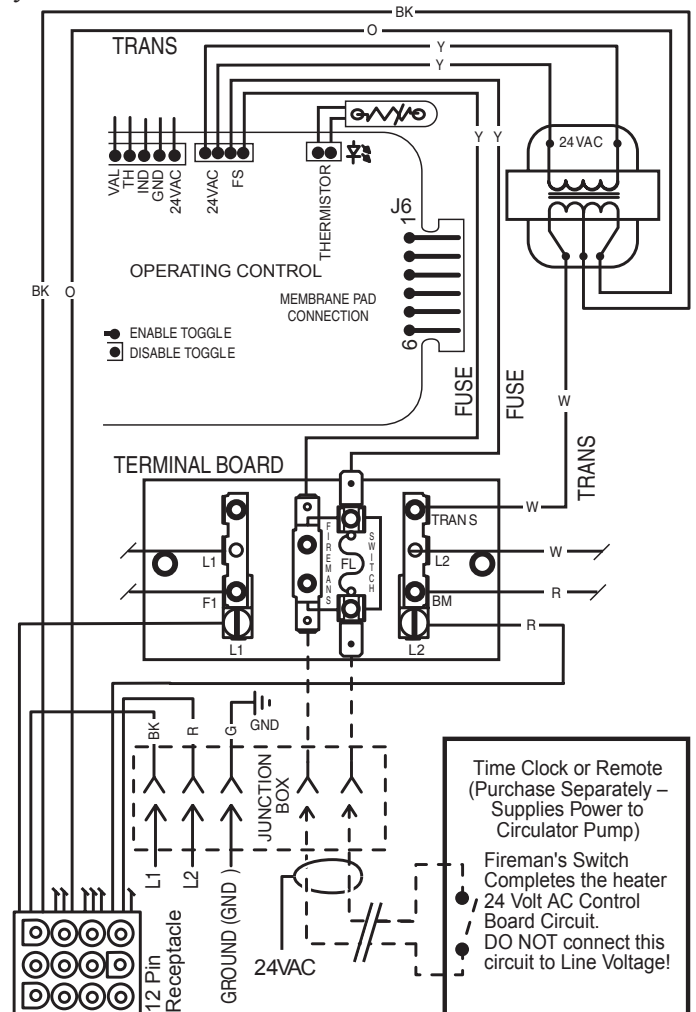

Figure 34.
- Connect wires between the Fireman's Switch terminals on the heater and the relay. Connect wires from the controller or timer to the Fireman's Switch. Controller, timer or relay should be sized to handle 24VAC at 0.5 Amp (because it will be completing the 24VAC control board circuit on the heater as shown in Figure 34). DO NOT apply line voltage to the Fireman's Switch terminals. Use 18 gauge wire with a minimum 1.2 mm (3/64 in.) thick insulation rated for a temperature rise of at least 105° C.
- Move jumper (as show in Figure 34) to enable external control and to disable the heater membrane pad's "Pool ON" and "Spa ON" buttons (the "OFF" key on the membrane pad remains functional).